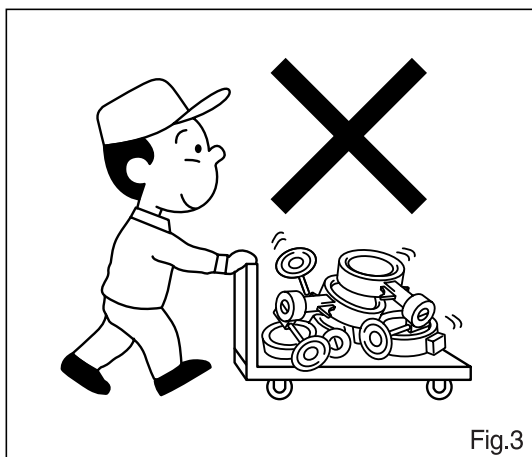

Fig.3
- **Cares while handling** : When valve to be kept/stored under packed condition, package(s) to be put on stable place so that collapse of package(s) to be avoided. Upon carriage, valve to be nicely loaded so that any collapse to valve could be avoided. When valve to be carried after removing packing, excessive force to valve to be avoided and cover-sheet to be put onto valve in dusty-place.(Fig.3)